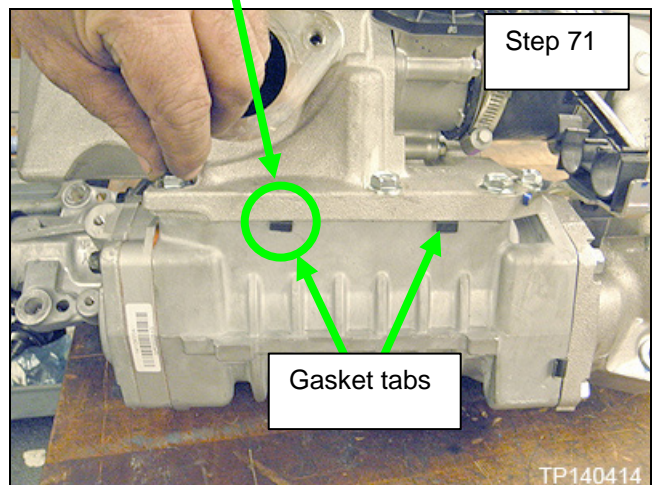

Figure 50
- The tabs (Figure 50) should point toward the supercharger.